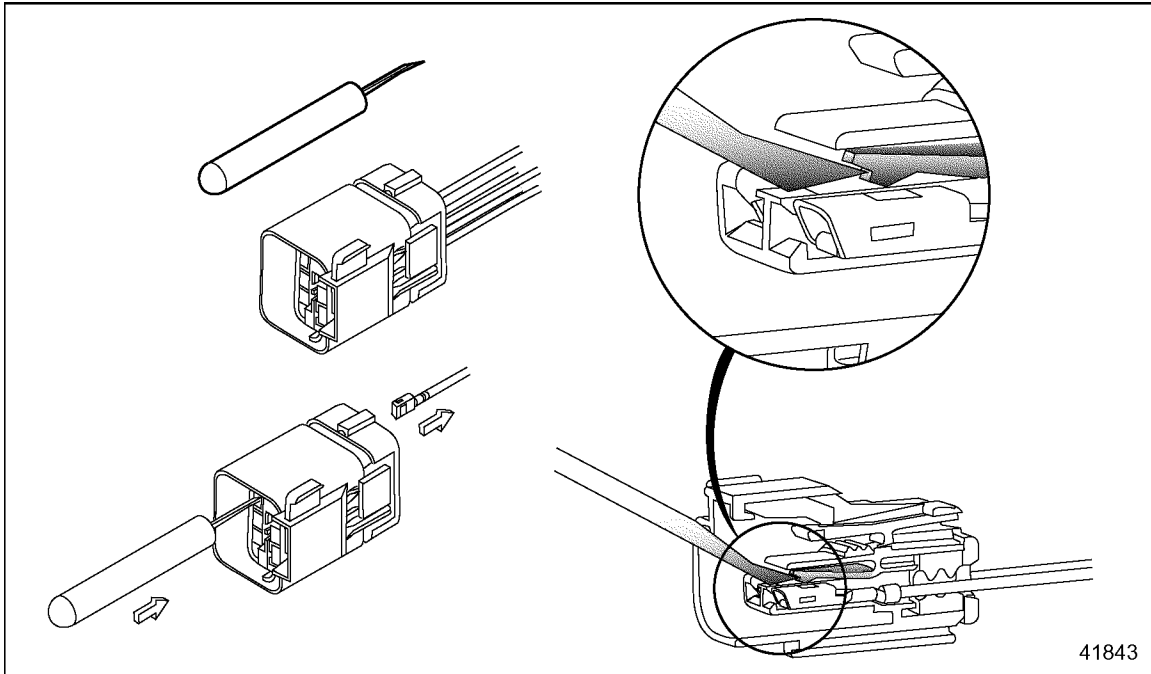

Figure 3-30 Pressing the Locking Tang
- Using a FCI APEX repair tool (P/N: 54900002) or a #2 jeweler's screwdriver, press back the terminal locking tang (see Figure 3-30).